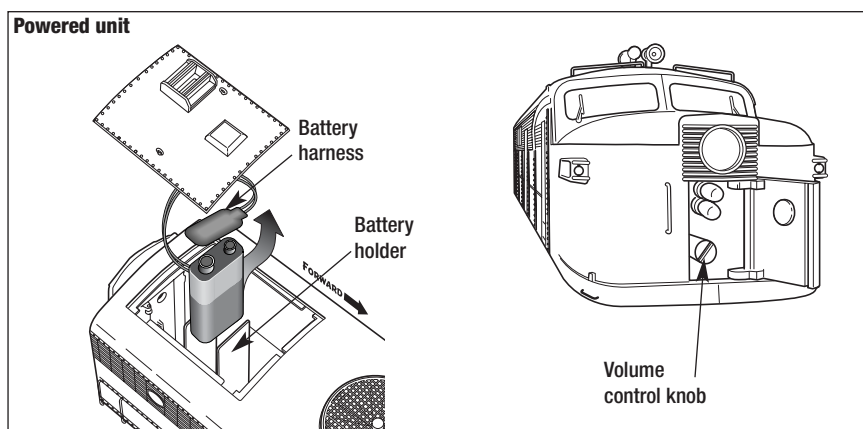

Figure 3. Battery installation and volume control knob location
You may choose to install a nine-volt *alkaline* battery in the powered locomotive set. This ensures interruption-free operation of the RailSounds sound system. The battery harness is located at the rear of the engine beneath the rear hatch. Gently lift up and unsnap the rear hatch as shown in Figure 3 below to access the battery harness. Snap the battery harness onto the battery terminals,
- Turn the volume knob clockwise or counter clockwise. As illustrated in Figure 3 on page 8, the volume control knob is located behind the door on the “nose” of the locomotive.